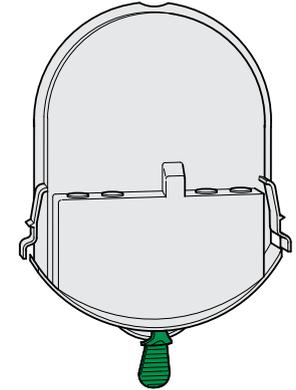

Figure 1. Adult Pad-Pak
1. Pad-Pak (gray color shown in Figure 1) for use on patients weighing over 55 lbs/25 kg, or equivalent to a child of approximately eight years of age or older.